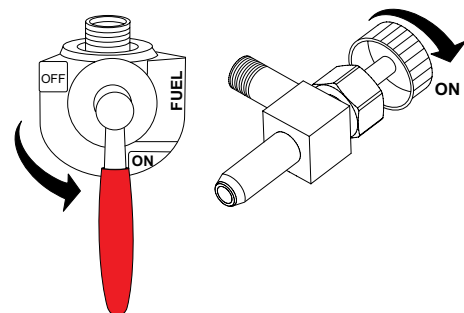

Figure 34. Fuel Tank Valve Lever (ON)
3. Return the fuel tank ON/OFF valve (Figure 34) to the **ON** position.